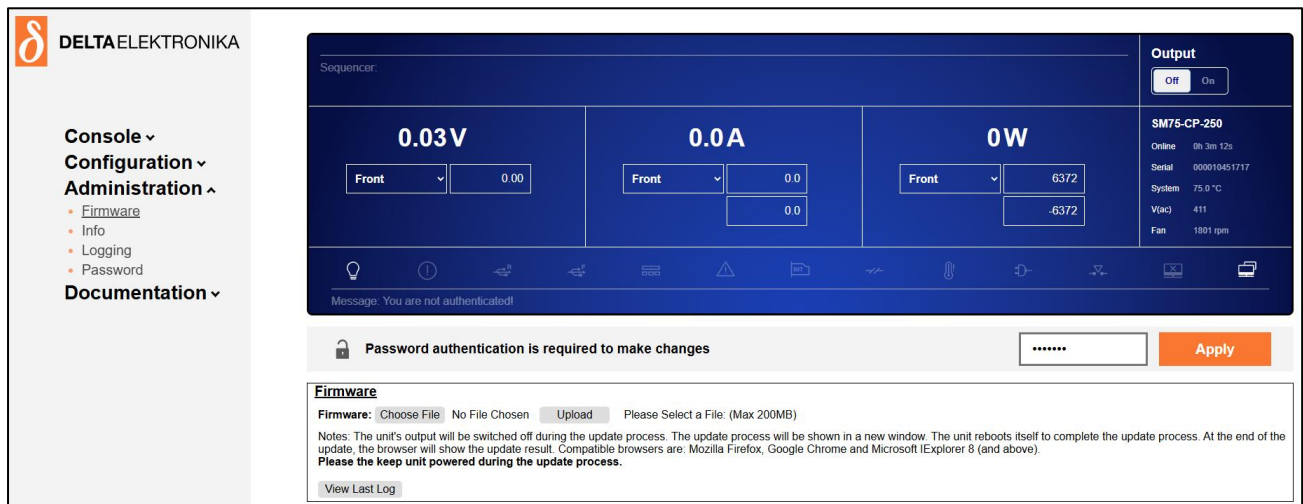

Figure 8.3: Via the web interface the downloaded firmware package can be uploaded to the unit.
- Select "Choose File" and browse to the downloaded package, enter password and "Start Update". See Figure 8.3 for a screen shot of the web interface.